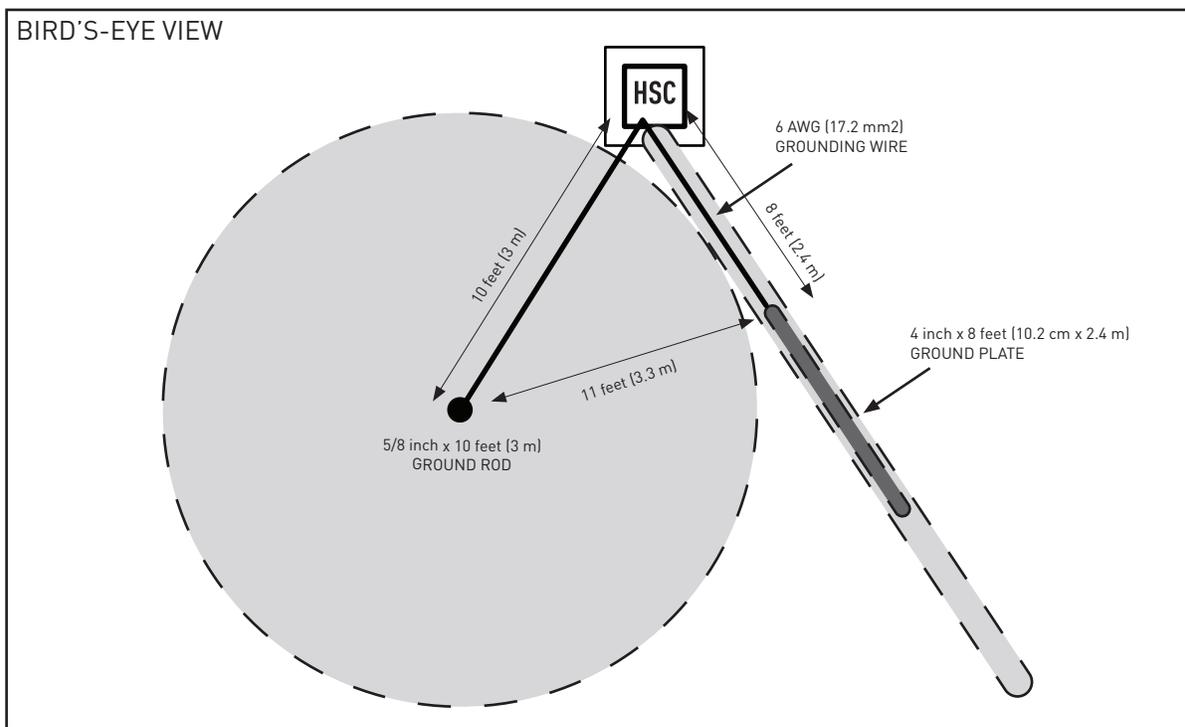

Figure 10. Grounding Array
Step 3 – Grounding Array: The ground rod is to be located at least 10 feet (3 m) from the controller, field wire path, Incoming high voltage conductors, as well as the flow sensor and master valve path. An 8 feet (2.4 m) grounding plate should be installed at least 8 feet (2.4 m) from the HSC and 11 feet (3.35 m) from the rod. See Figure 10.
The purpose of Figure 10 is to show typical distances for safe grounding practices. Your site conditions will vary and require adaptation. Follow the distance requirements of Step 3 to keep your wire paths free from electrical interference and avoid surge from outside sources.